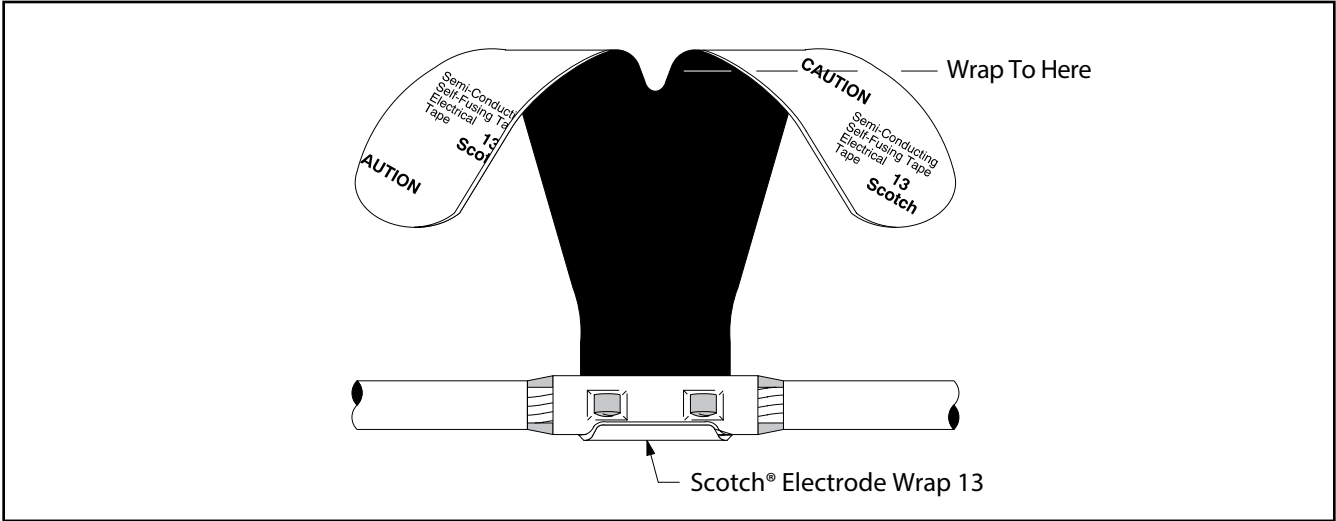

Figure 8
5.1 Remove liner from Scotch® Electrode Wrap 13. Center electrode wrap (narrow end) over connector. Wrap around connector with sufficient tension to eliminate gapping and wrinkling. Continue wrapping until electrode wrap divides into 2 legs (*Figure 8*).